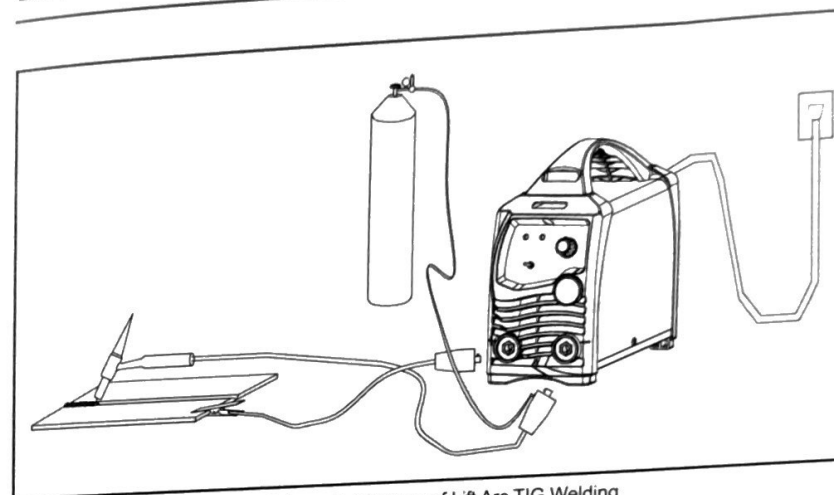

Fig. 7 Schematic Diagram of Lift Arc TIG Welding
- 3) Switch the MMA/TIG switch to MMA, welding can be carried out with output current in rated range. Switch the MMA/TIG switch to TIG, ignite arc and weld in lift arc mode, arc can be ignited with lift arc ignition current in rated range, and welding can be carried out with welding current in rated range. (See Fig.7 above.)